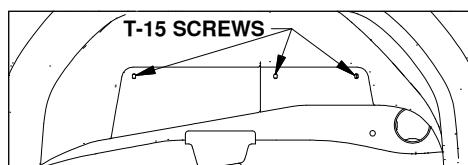

Figure A2: View looking into driver side wheel well.
8. Un-attach the wheel well liners. Check for the presence of flexible wheel well liners in the truck wheel wells. If present, three T-15 Torx screws will need to be removed so that the liners can be folded up and allow access to the frame, see Figure A2. Retain screws for later re-installation.